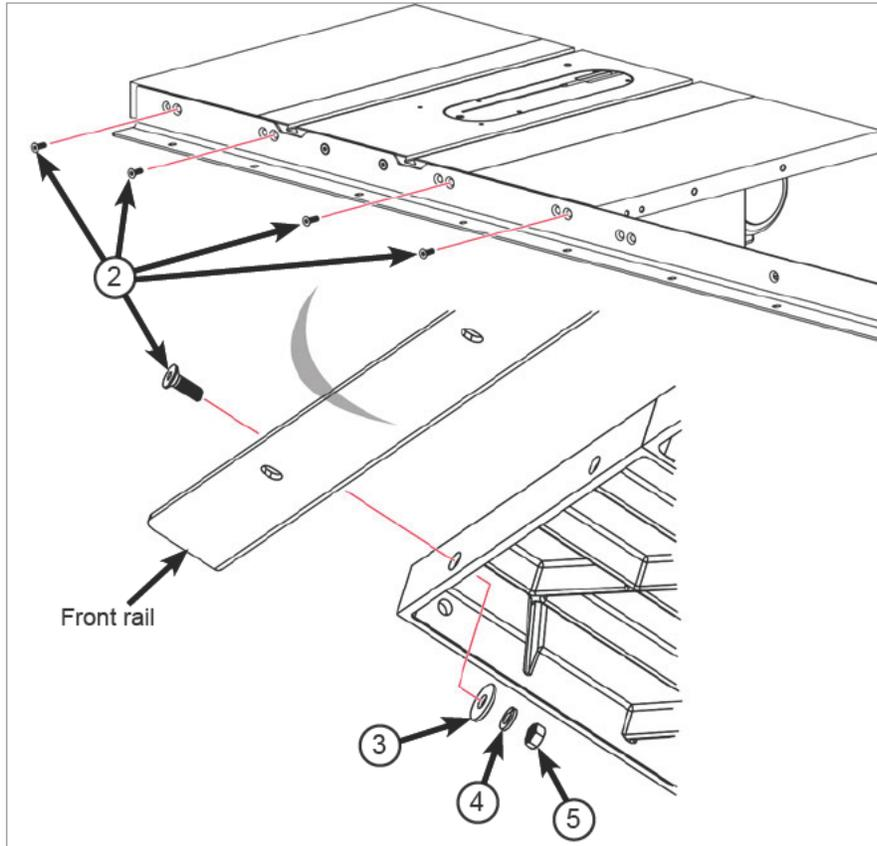

Fig. 10
2. Take four more M8 x 25 countersunk socket head bolts and insert them through the four open holes in the front rail and table. Place an M8 washer and an M8 lock washer on the threaded end of each of the bolts and then thread an M8 hex nut on each bolt (See Fig. 10). Hand tighten the nuts; do not fully tighten them.